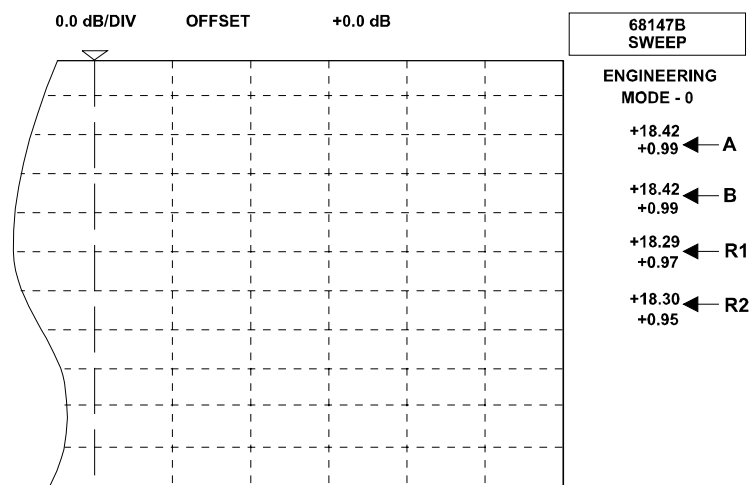

Figure 3-2. Monitor Display of LOG/TEMP CORRECTION
Step 15. Adjust A2R62 for 0.00 ± 0.01 , as read on the LOG/TEMP CORRECTION display (see Figure 3-2).